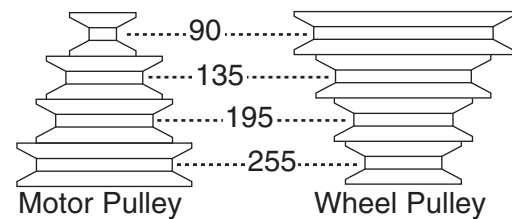

Figure 28. Blade cutting speed chart.
2. Refer to **Figure 28** and match the workpiece material with the suggested blade speed, and then find the correct pulley ratio to get that blade speed.